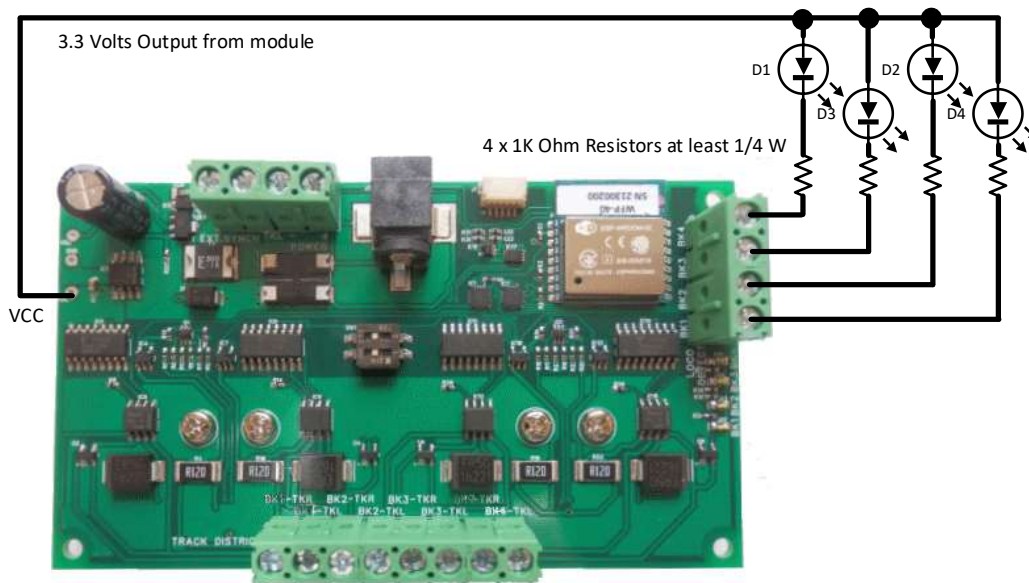

Figure 6. Connections for LED Occupation Indication
- (3) When you have organized your track with the appropriate blocks and gaps, wire the connections from the module to your track according to the diagrams. You can either solder wires to the track or use clips and plugs provided by manufacturers. Use at least 13 x 0.12 Stranded insulated wire – black and red is a good idea.
- (4) Optionally, install four LEDs and 1K Ohm ¼ Watt series resistors to provide remote block occupancy indication as shown in Figure 6. You will need to solder a wire to the 3.3 Volt output on the module. **Take great care not to short this power as it may damage the module. Do not omit the series resistors or the module and LEDs will be damaged!**